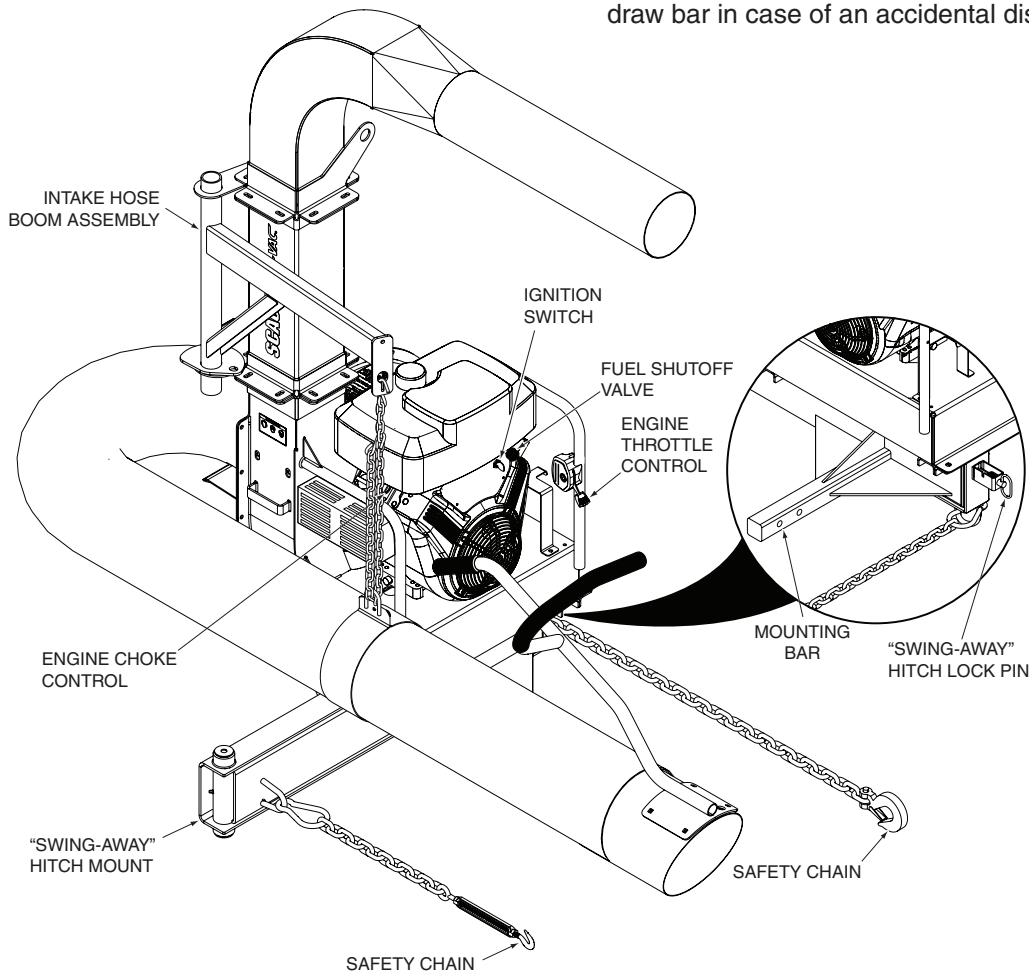

Figure 4-1. Controls and Instruments - TLH Model Shown
1. **Ignition Switch (Figure 4-1).** The ignition switch is used to start the engine and has three positions; OFF, ON, and START.
2. **Engine Throttle Control (Figure 4-1).** Used to control the engine speed. Pushing the lever inboard increases engine speed. Pulling the lever outboard decreases engine speed. Full outboard position is the IDLE position. Full inboard is the operating position.
3. **Engine Choke Control (Figure 4-1).** Used to start a cold engine.
4. **Fuel Shutoff Valve (Figure 4-1).** Located under the fuel tank. Used to shut off fuel supply to the engine. Rotate the valve counter clockwise to supply fuel. Rotate the valve clockwise to shut off fuel supply.
5. **Safety Chains (Figure 4-1 & 4-2) TLH Models Only.** Used to connect to the tow vehicle's cradle draw bar in case of an accidental disconnect.
6. **Mounting Bar (Figure 4-1) TLH Models Only.** Used to connect and support the truck loader to the transport vehicle.
7. **"Swing-Away" Hitch Mount (Figure 4-1) TLH Models Only.** Allows the truck loader to swing out of the way while unloading the debris box.
8. **"Swing-Away" Hitch Lock Pin (Figure 4-1) TLH Models Only.** Locks the Swing-Away hitch in the closed position. Pull and turn the spring latch to unlock to allow the truck loader to swing out of the way while unloading.
9. **Intake Hose Boom Assembly (Figure 4-1).** Used to support the intake hose. The support chain can be raised or lowered until the intake nozzle floats 2-3 inches from the ground to help make operation easy and comfortable.
2. Be sure the fuel shutoff valve, located under the fuel tank, is completely open. See Figure 4-1.